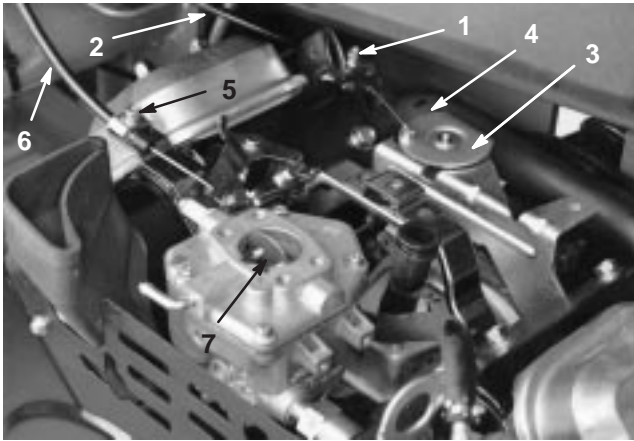

Figure 46
1. Loosen the cable clamp screw securing the cable to the engine (Fig. 46).
3. Pull firmly on the throttle cable until the back of the swivel contacts the stop (Fig. 46).
3. Pull firmly on the choke cable until the choke butterfly is completely closed, then tighten the cable clamp screw (Fig. 46).